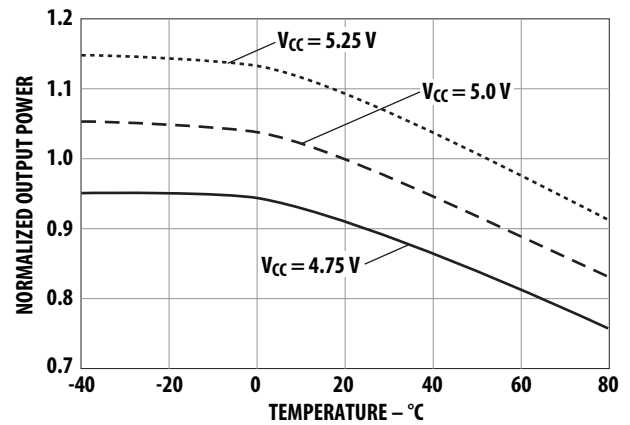

Figure 4. Typical normalized optical power vs. temperature (in recommended drive circuit)
3. Minimum and maximum values for P_T over temperature are based on a fixed drive current. The recommended drive circuit has temperature compensation which reduces the variation in P_T over temperature, refer to Figures 4 and 6.